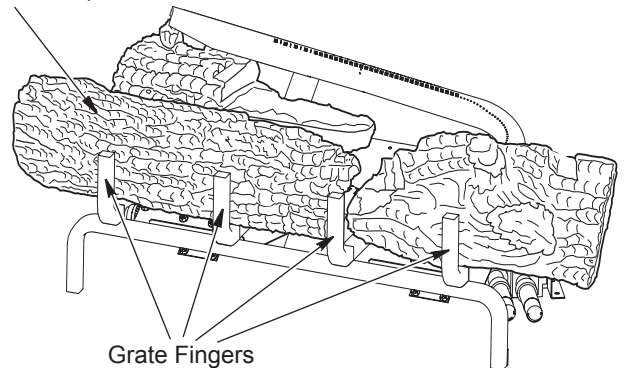

Figure 21 - Installing Front Left Log
- Find the front left log (LMF36-SC and VFGT24 inch models: D-059 or LMF42-SC and VTGF30 inch models: D-017 or LMF48-SC and VFGT36 inch models: D-025). See Figures 21, 21A, and 21B. The log has a rectangular stand off on the bottom that fits against the lip on the black metal base as shown in figure 21A, page 13. The bottom of this log has a slot that fits over the second bar on the grate as shown in Figure 21B, page 13. Place the log on the base assembly as shown in figures.